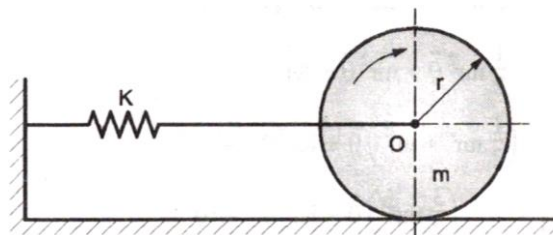

Fig.No.1
- Q.3** (a) Find the natural frequency of oscillation for the roller rolling on horizontal surface without slipping, as shown in fig. no.1. The mass of roller is 5kg, radius of roller is 50mm and stiffness of spring is 2000 N/m. **07**